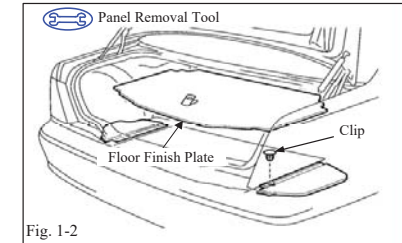

Fig. 1-2
- (1) Remove the two (1) clip and deck trim sideboards on right side. (Fig. 1-2)